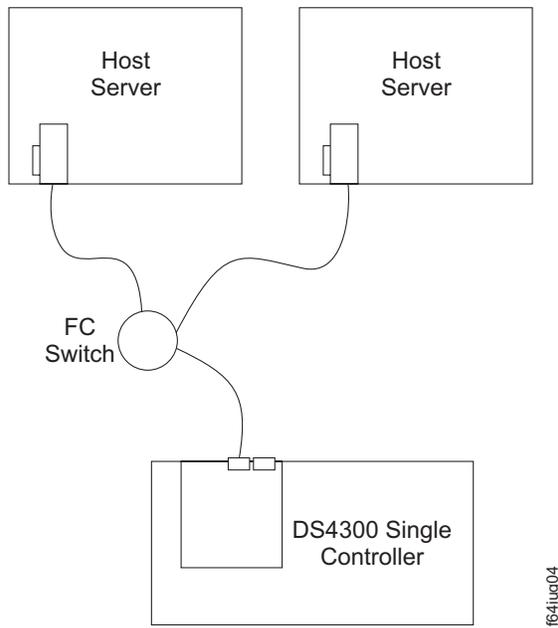

Figure 64. Example of a dual-server, single-SAN fabric zone configuration with one adapter on each server (Model 6LU/6LX)
- Dual-server, single-SAN fabric zone configuration with one adapter on each server (Figure 64 on page 80)